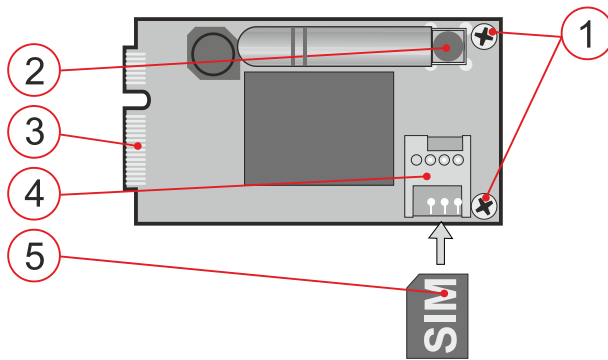

Fig. 1: The JA-194Y communicator
- Attach the GSM antenna** to the connector (2.) on the communicator module (included with the JA-194Y). When installing the antenna, follow the orientation shown in Fig. 1.